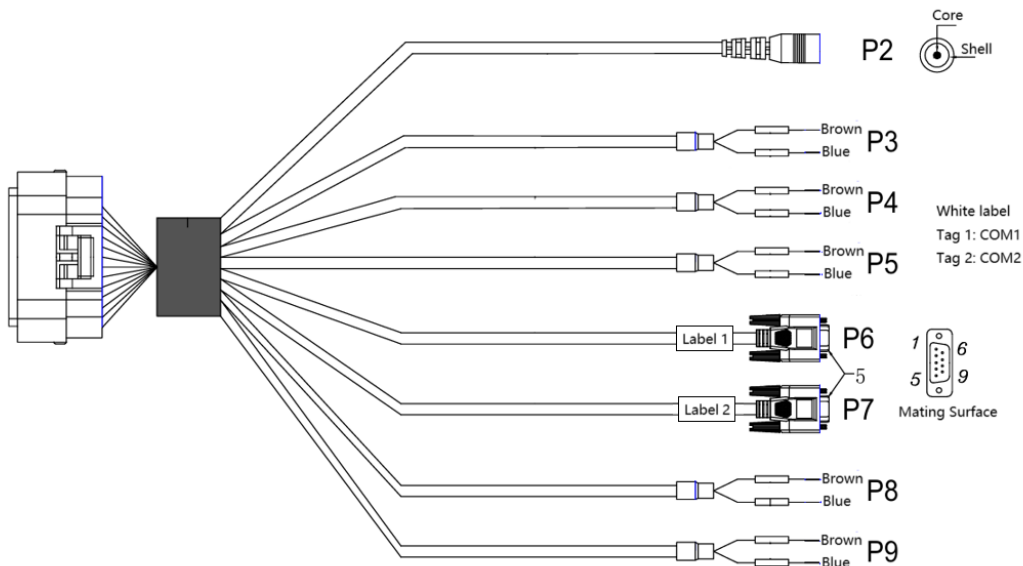

Figure 1-2 Wire Harness and Connector Description
- 4. Antenna Connection Ports:** The main antenna connected to the device uses a FAKRA-A interface, while the secondary antenna uses a FAKRA-C interface. The specific locations are shown in Figure 1-2.